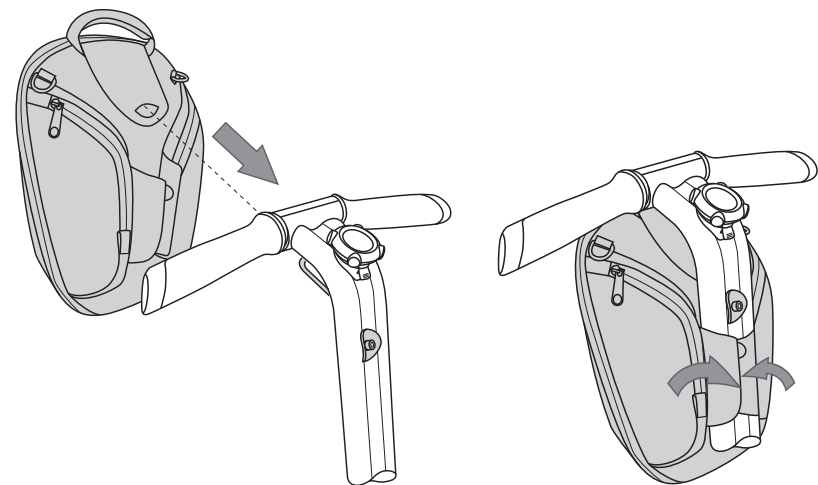

Figure 2. Installing the Handlebar Bag
6. Slide the Handlebar Bag onto bracket. See Figure 2.
8. Ensure the tabs are tightly closed around the LeanSteer frame. See Figure 2.